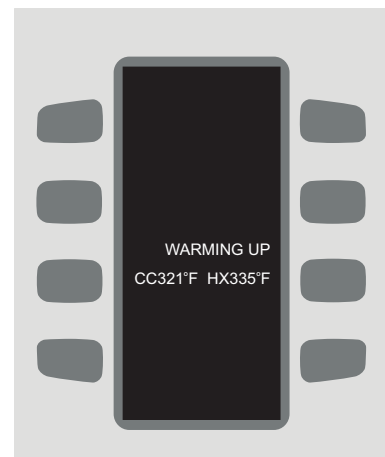

FIGURE 9: Warming Up Screen
3. The **WARM UP** screen will display "Warming Up" (or in some cases "Cooling Down"), the cook cavity temperature (CC) and heater temperature (HX) (Figure 9).